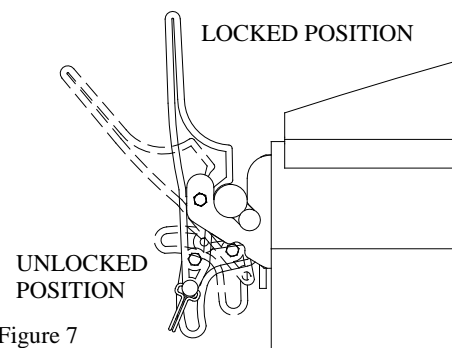

Figure 7
**Procedure:** Locate the front round bracket (6) 10 inches in from the face of the front of the hood and 3/4" lower than the top edge of the trailer. Using a 5/16" drill bit, drill two holes through the predrilled holes in the bracket and into the trailer. Secure the bracket to the trailer using two 3/8" X 1 1/4" self-threading bolts (5) provided. Remove the 1/4" X 3" hex bolt (7) from the flip-release tarp stop (4). Insert the bolt through the bracket (6) and through the tarp stop (4). Secure using the 1/4" lock nut. Torque the bolt appropriately so the flip-release tarp stop will remain in the unlocked position (see Figure 7). Remove the quick pin from the bottom hole of the flip-release tarp stop and adjust the tarp stop so it is in the unlocked position (see Figure 7). Install the rear bracket 10 inches in from the face of the rear end cap and 3/4" lower than the top edge of the trailer. Evenly space the remaining flip-release tarp stops along the same side of the trailer making sure to mount the brackets 3/4" lower than the top edge of the trailer.